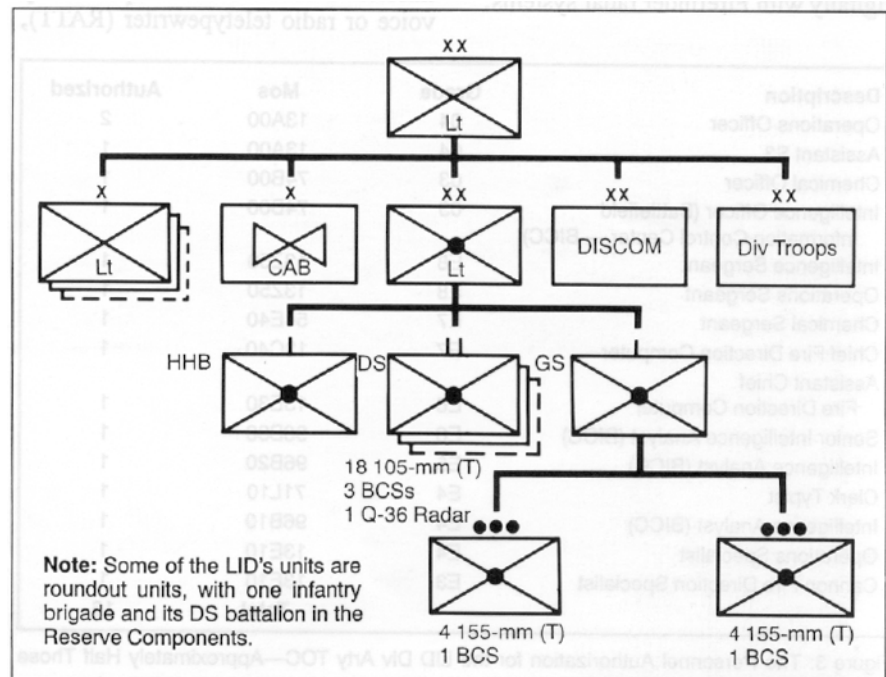

Figure 1: A Typical LID Artillery
These organic weapons and equipment in a counterfire battle are not impressive. The structure of a typical LID Artillery is shown in Figure 1. The general support (GS) battery is organized and equipped to operate as two separate four-gun platoons. To enhance the division artillery's (Div Arty's) capability, a target acquisition detachment (TAD) is being designed and fielded for the light divisions. This corps unit, which is to be stationed with its supported Div